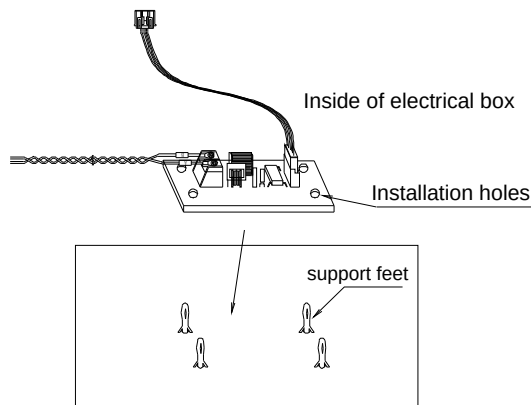

Fig. 2
- As shown in figure 2. In the electrical box there are four spare white supporting feet, arranging for 63 mm × 26 mm rectangle. Set the extended pcb up to these four white support feet.